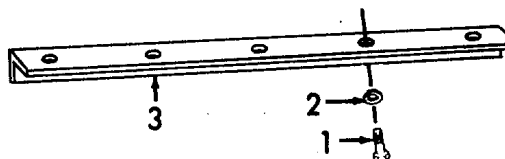

Figure 5-7. Top Stiffener, Replacement.
(4) Replace a defective top stiffener as follows:
- (a) Refer to Figure 5-7. Remove five screws (1), five lockwashers (2), and stiffeners (3).